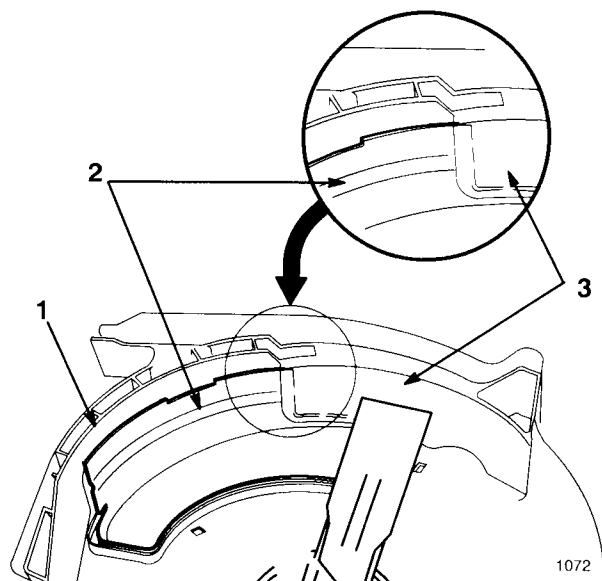

Figure 45
8. Check the clearance between blade tips and the baffle, ensuring that there is no contact (Fig. 45).
Note: The baffle must go behind the front deck baffle and between the blade and toe guard to prevent contact with the blade (Fig. 45).
Note: The mulch plate baffle must go behind the front deck baffle and between the blade and toe guard to prevent it from contacting the blade (Fig. 45).
10. Check the clearance between the blade tips and the baffle, ensuring that there is no contact (Fig. 45).